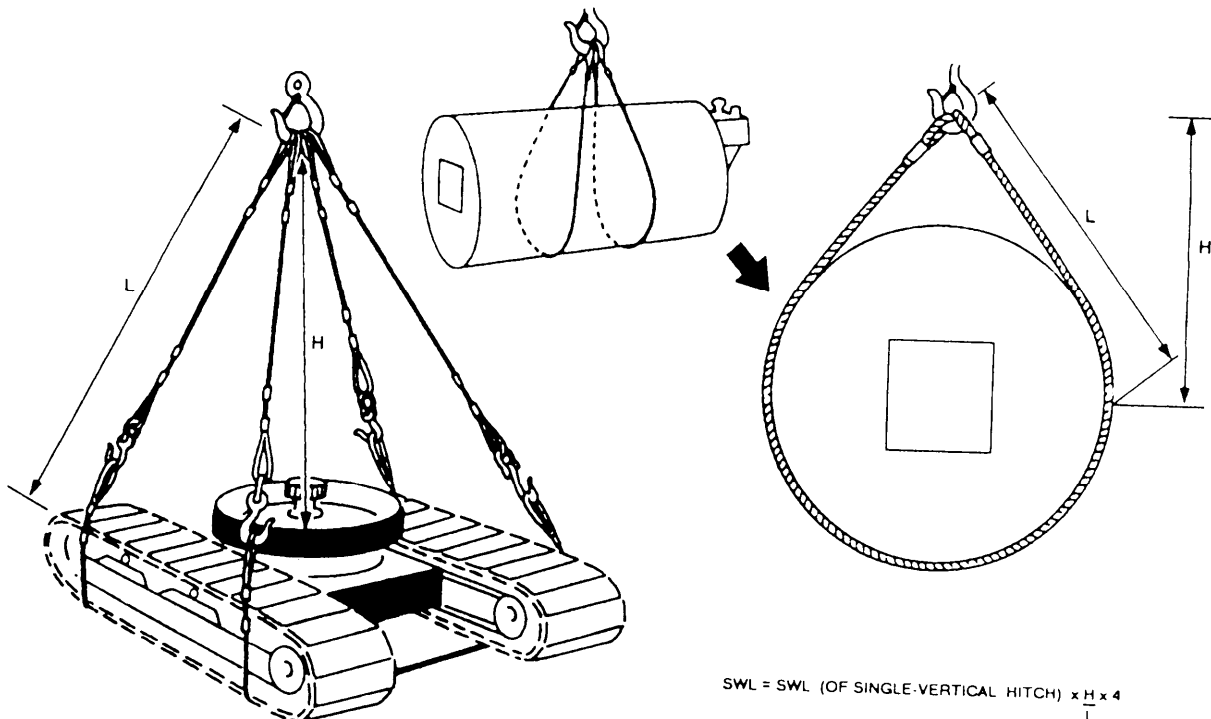

Figure 13-38.—Determination of double-basket hitch sling capacity.
**Double-basket hitch** (fig. 13-38): For vertical legs,  $SWL = SWL \text{ (of single-vertical hitch)} \times 4$ .